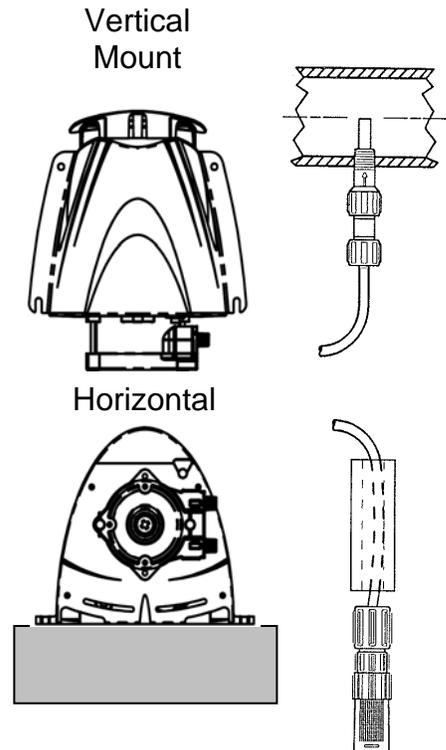

Figure 2: Injector Placement
1) The pump can be installed either vertically or horizontally (See Figure 2). Make sure to secure the pump on a flat level surface that will support 50-lbs (22kg) and secure with four .25-in (6mm) screws in the holes provided. The guard snaps into the back of the pump via three tangs -- see Figure 1. The pump should be mounted with no less than 1.75-in (44mm) of clearance around the venting on both the front and the rear of the pump. Locate the pump so there is direct access to the power cord plug.
3) Relieve the system pressure and drain the piping run where the injection fitting is to be installed. See Figure 2 for reference. **The injection fitting must not be installed in a dead end pipe or a deeply recessed tee. It should be installed so as to place the tip at the center of the fluid stream as indicated in Figure 2.** The injection fitting is supplied with .25-in NPT threads. If necessary drill a .44-in (11mm) diameter hole and using care not to tap to deeply, tap for .25-in NPT.